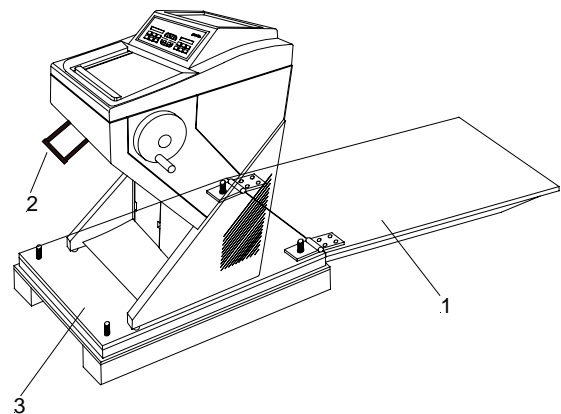

Fig. 5a
The upper wooden cover now serves as an incline (fig. 5a.1) on which the cryostat can be moved from the pallet to the floor by using the handle (fig. 5a.2)
- The hinges of the upper wooden cover (fig. 5.1) are inserted into the screws of the bottom plate (fig. 5a.3). The correct side for this is marked with arrows.
- Turn the setting feet completely upwards via this tool so that the cryostat stands with its rollers on the bottom plate (fig. 5a.3).
- Via the handle (fig. 5a.2) roll the cryostat from the bottom plate (fig. 5a.3) over the wooden cover (fig. 5a.1). In doing so, the rear side of the instrument must show to the incline (fig. 5a.1).